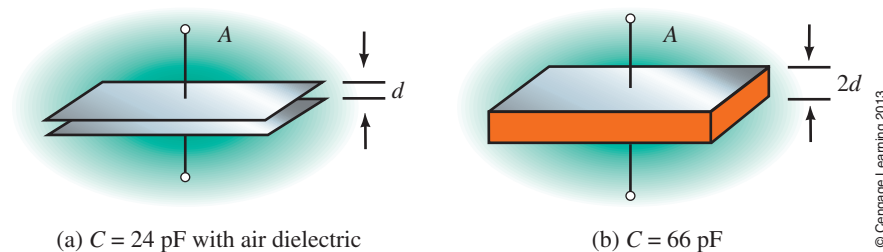

FIGURE 10–7
4. What is the dielectric for the capacitor of Figure 10–7(b)?